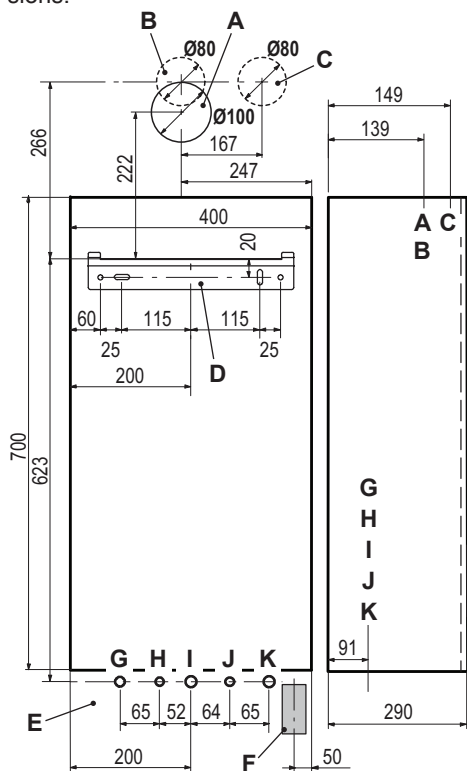

Fig. 6.2
- Fix the water valve "O" ($\frac{1}{2}$ ") to position "J" (Fig. 6.2) using the $\frac{1}{2}$ " gasket.
- Fix the C.H. valves "N" to position "G" and "K" (Fig. 6.2) using the $\frac{3}{4}$ " gaskets.
- Fix the gas cock "P" to position "I" (Fig. 6.2), using the $\frac{3}{4}$ " gasket.
- Fix the $\varnothing$ 15 mm copper pipe "Q" to position "H" (Fig. 6.2) using the $\frac{1}{2}$ " gasket.